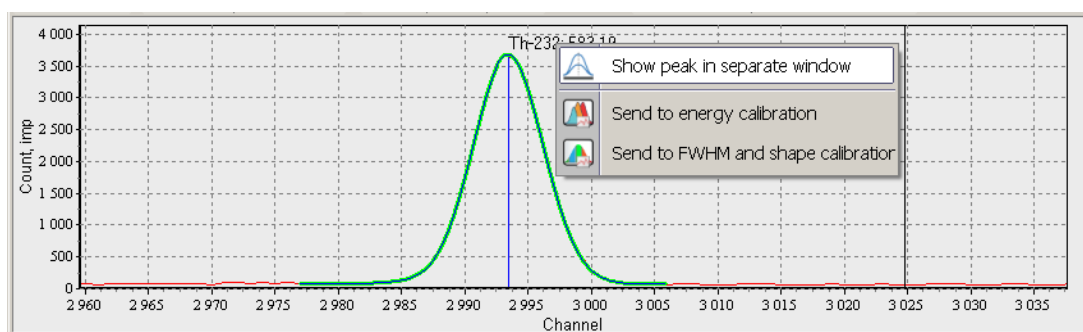

Figure 40.4
If you right click on the title, a popup menu will appear as shown on Figure 40.4.
- from the peak title context menu (section 6.4, Fig. 40.4).